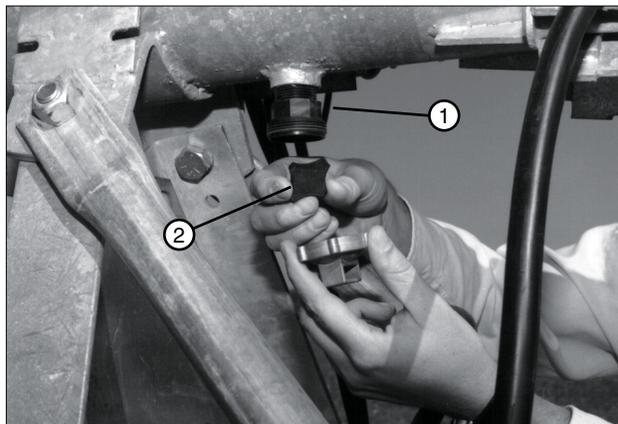

Figure 68-1 1. Pipe Drain
2. Remove the pipe drains at each tower and clean sand and foreign particles from these drains. Turn the rubber drain seal over when reinstalling. See Figure 68-1.